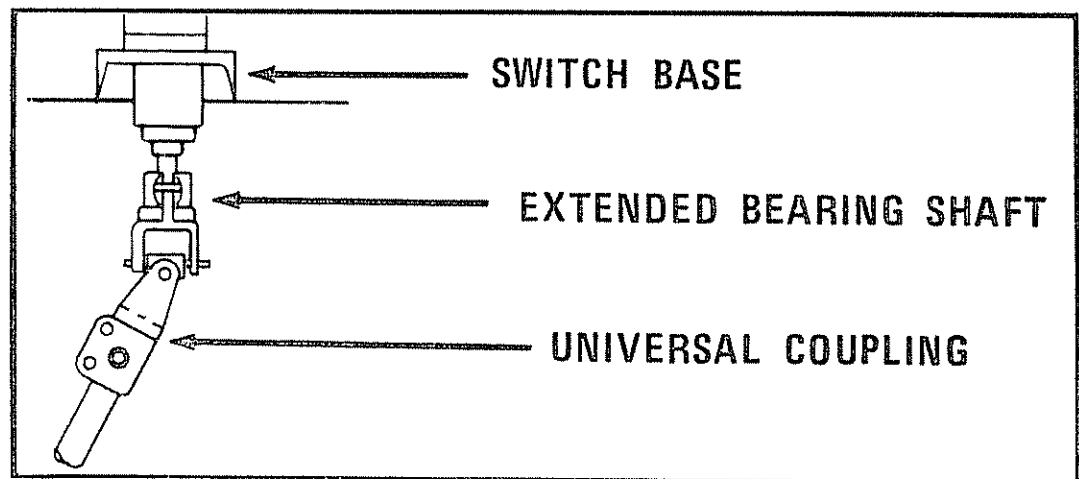

FIGURE 5
6. Mount the hinge and blade assembly as directed in figure 5. Be sure that the match marks made earlier are aligned.
FIGURE 5 Note: Double interphase switch arm shown; switch may also be equipped with a single arm as specified. Refer to Op. Mech. drawing for proper rotation of switch arm. This figure is for illustration only. (3000 AMP SHOWN)
- E. Attach universal coupling to extended switch bearing shaft. (See Fig. 5)